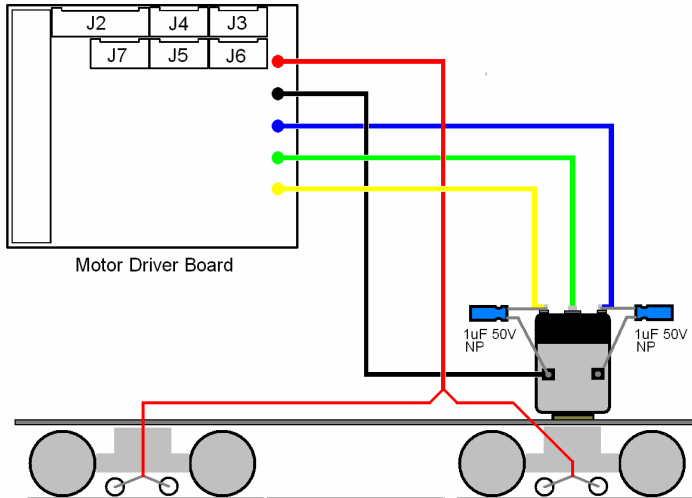

Figure 4 – AC Motor and Power Connections for 3-Rail Locomotives
This section describes installation of the Motor Mite into a Lionel locomotive with a single AC motor. Refer to figure 4 while performing the following steps.
Pay special attention to the wiring instructions and wiring diagrams when connecting the Motor Mite to this type of motor, since the connections may be different to what you are accustomed to. Refer to the wiring diagram of Figure 4 while performing the following procedure.
1. Keeping the leads as short as possible, solder one lead of a non-polarized 1uF capacitor to each of the motor brush terminals. This is illustrated in figure 4.